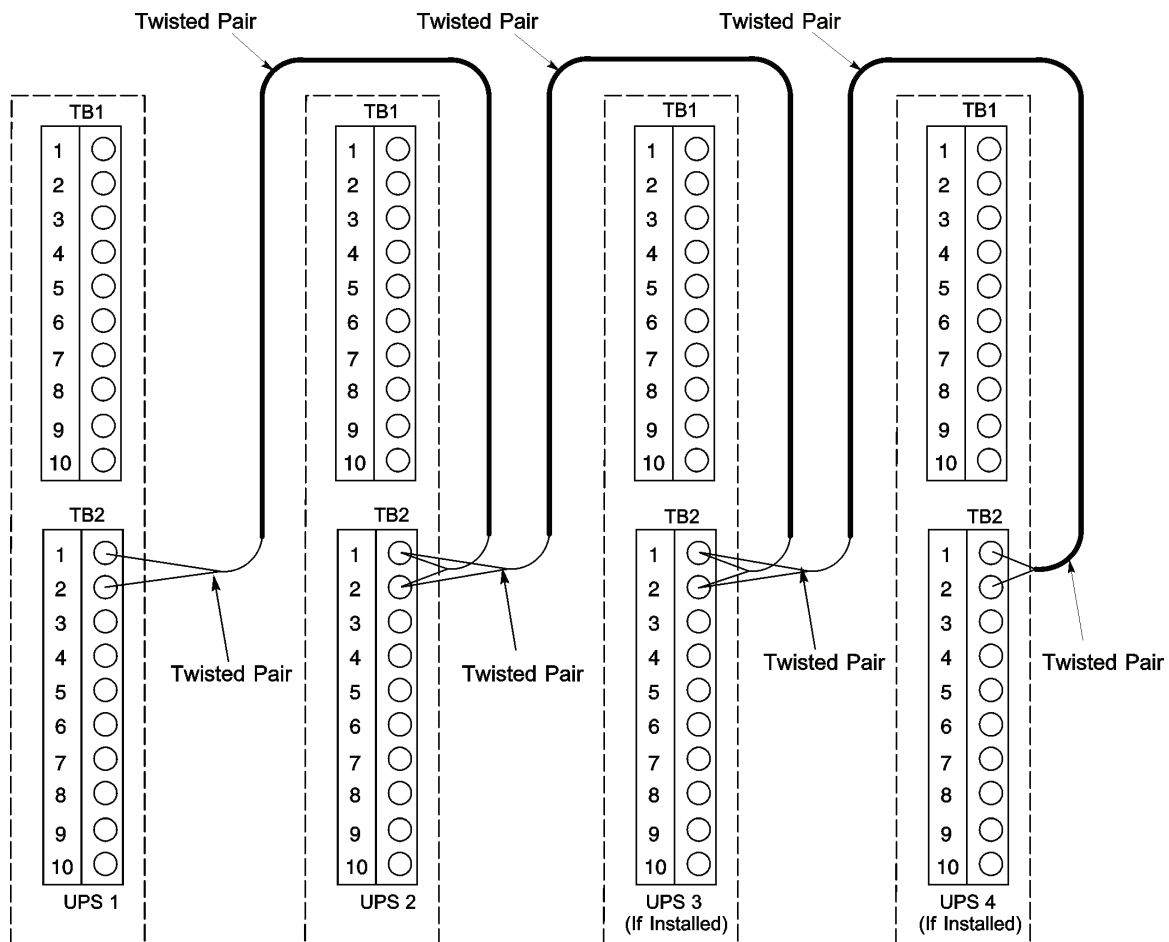

Figure 5-5. Distributed bypass Pull-Chain wiring without MOBs
9. Route and install distributed bypass system pull-chain wiring between the UPS cabinets. See Figure 5-5 and Table 5-3 on page 50 for wiring information.